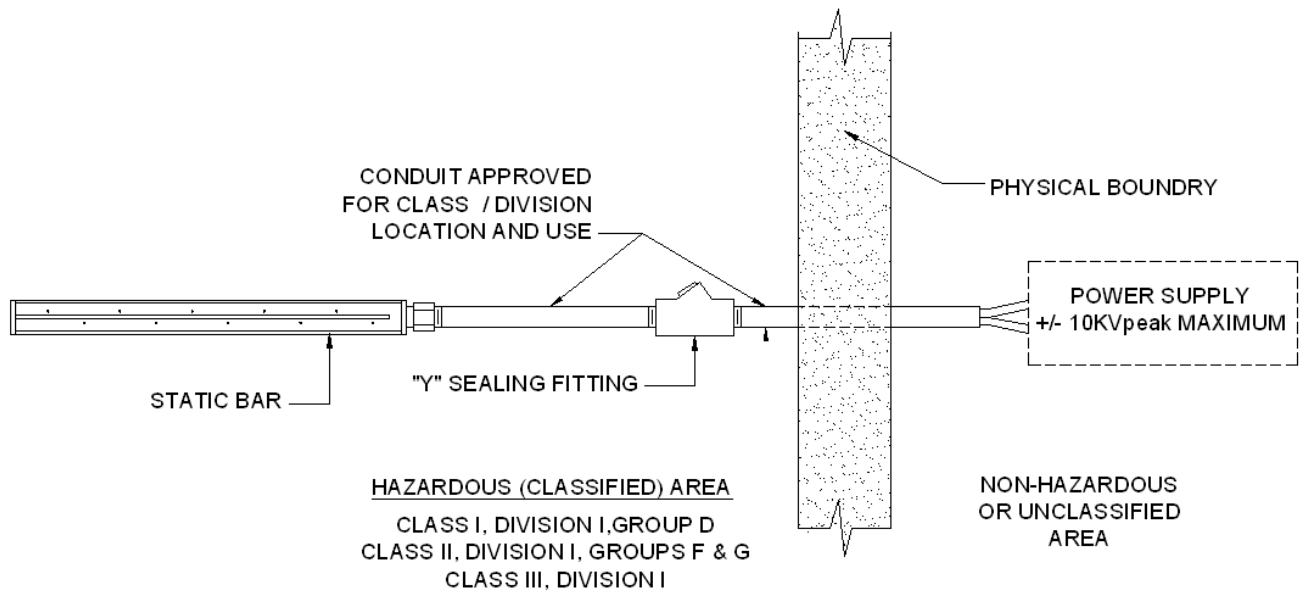

Figure 9. Conduit Requirements
The IQ POWER HL static bar requires the use of a “Y” conduit sealing fitting between the static bar and the physical boundary of the classified area. The high voltage wiring from the IQ POWER HL static bar must be properly prepared to ensure the sealing at the “Y” fitting(s). Refer to Figure 9 for a typical location.
3. A “Y” sealing fitting is required between the static bar and the boundary, (physical separation between the Class 1 location and the non-hazardous or unclassified area). Refer to Section 4 for the proper installation of the “Y” sealing fitting. Refer to Figure 9 for the typical location.